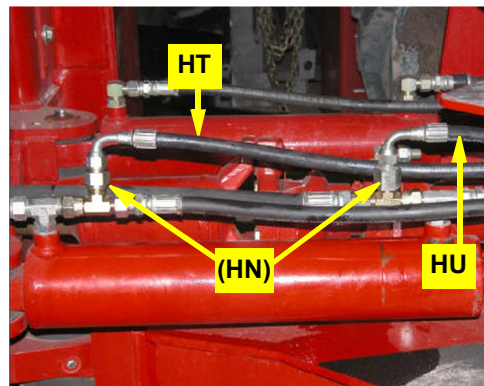

Figure 6a: Steering hoses connected at left steering cylinder (see Note about HN elbows)
- a. Install elbow adaptors **HN** (not shown) on the run tees and connect the steering output hoses **HT** and **HU** to the **HN** elbows. **HT** goes to the front run tee (Figure 6a).
**NOTE:** *Figure 6a shows hoses with 90° elbow end fittings. Hoses HT and HU in your kit have straight end fittings so 90° elbow adaptors (HN) are provided.*